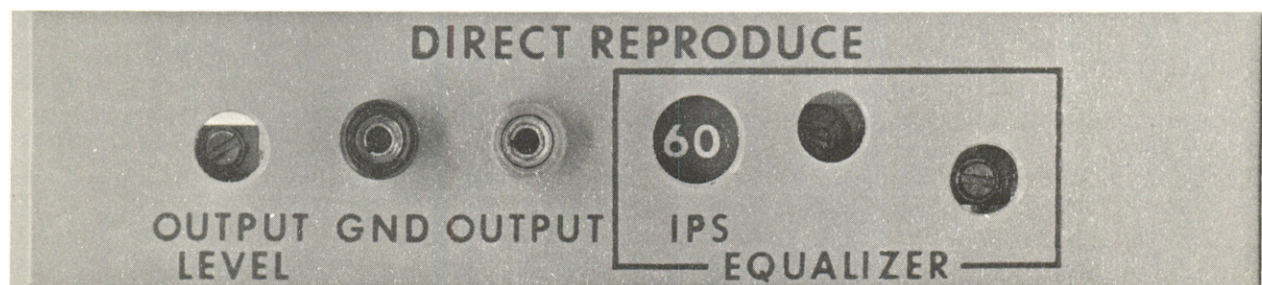

Figure 4-5. Typical Front Panel, Direct Reproduce Amplifier
Step 3: Adjust the amplifier OUTPUT LEVEL control, on the face of the reproduce amplifier (see figure 4-5) to obtain a -10 dbm reading on the VTVM.